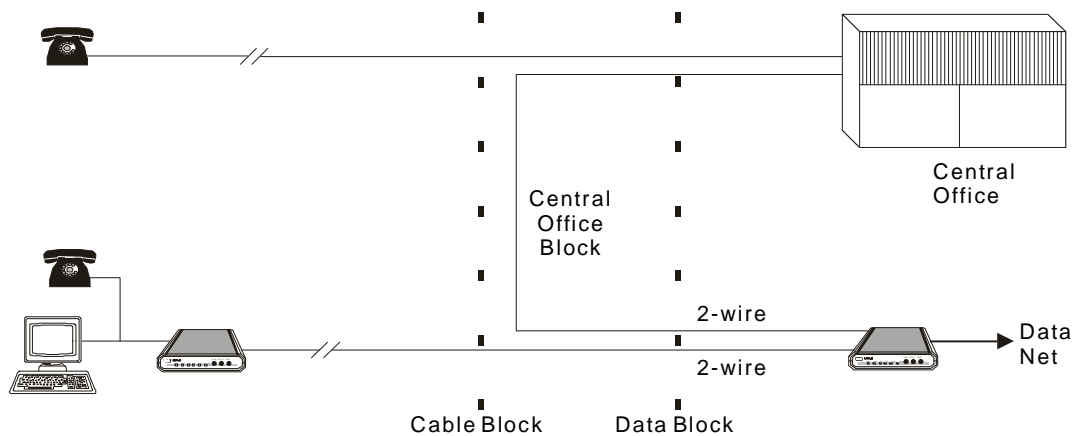

Figure 1-1. Typical FDN 6131A Application
Figure 1-1 shows a typical FDN 6131A application. The telephone line coming from the subscriber normally runs through a cable block at the MDF, and then through the Central Office (CO) block to the switch. When a Data Over Voice (DOV) device is installed, the line is routed from the cable block to the data block, and from there to the central DOV unit.